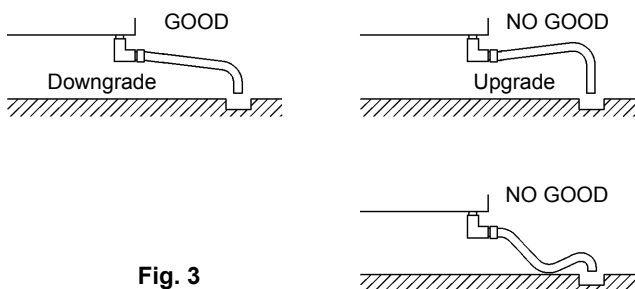

Fig. 3
- * To prevent a backflow into the Storage Bin, the outlet hose must be laid as shown in Fig. 3.